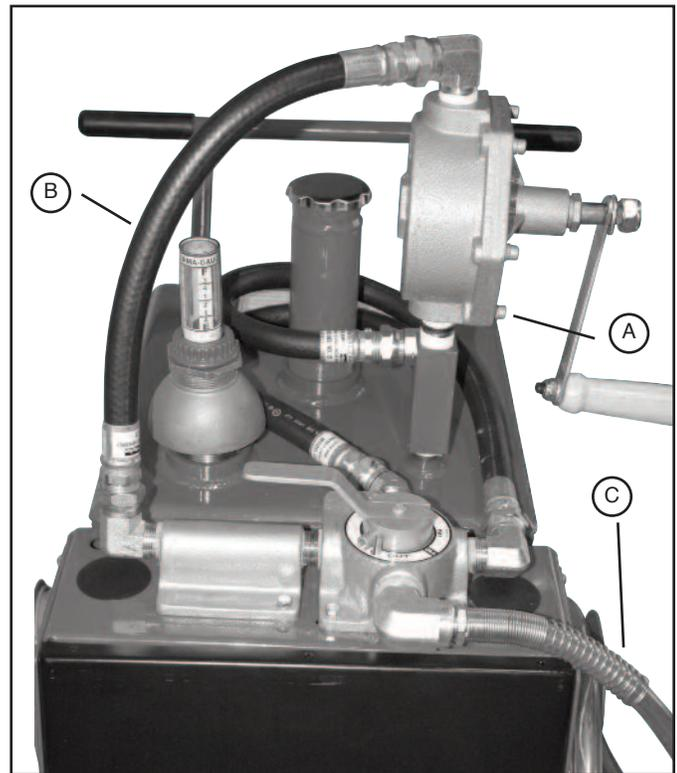

Fig. 1
3. Position the handle to the left side of the tank as shown in Figure 1.